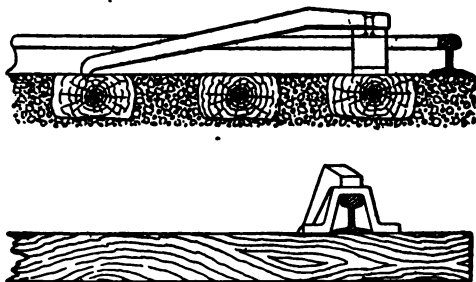

FIG. 62.—COMMON WRECKING FROG.
A. Fig. 62 shows a common wrecking frog that is used for the wheel on the outside of the rail in connection with